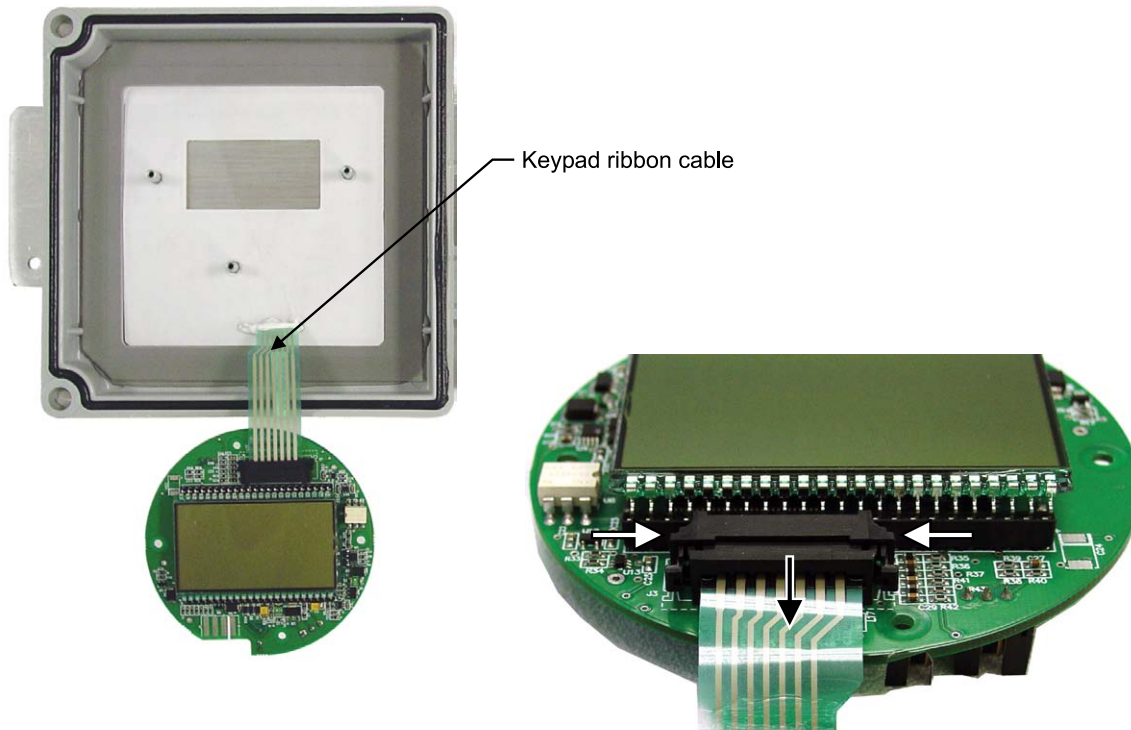

Figure 6.5—To release the ribbon cable from the connector, press in on the side tabs of the connector (white arrows) and gently pull forward (black arrow).
- a. Grasp the black clip between a thumb and forefinger (see white arrows in Figure 6.5, page 94).
2. Vertically flip the circuit board over to view the opposite side of the board where the LCD is mounted. The keypad ribbon cable will remain attached to the circuit board (*Figure 6.5*).
- a. Grasp the black clip between a thumb and forefinger (see white arrows in *Figure 6.5, page 94*).